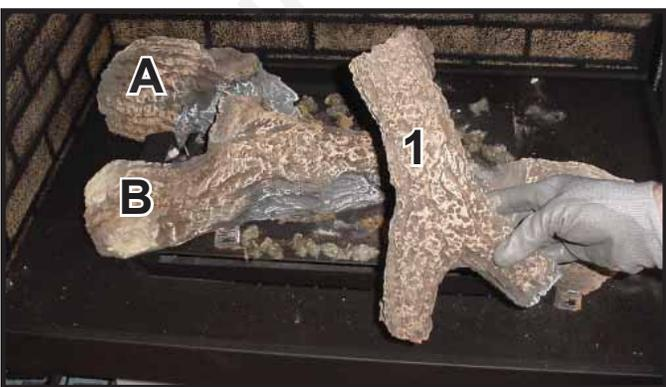
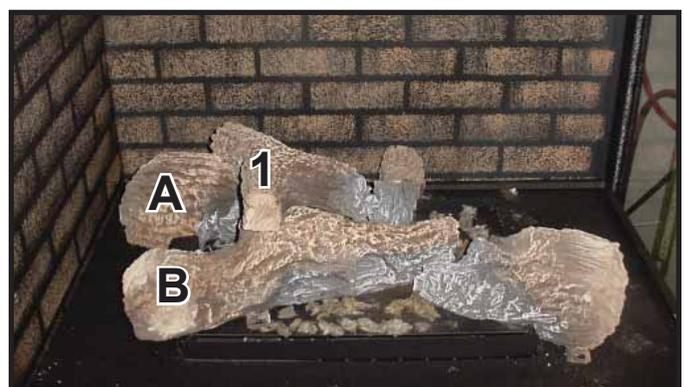

Figure 9. Placement of Log #1
Figure 10. Placement of Log #1
**STEP 1. Log #1 (SRV2129-704):** Place Log #1 on Log A. The end and bottom of Log #1 fit into the indentation on Log A highlighted in Figure 9. The Y-shaped end of Log #1 will rest on the smooth area of Log B as shown in Figure 10.